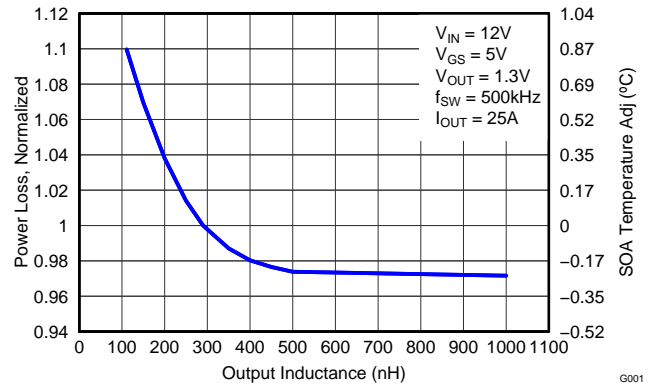

Figure 8. Normalized Power Loss vs Output Inductance
- Normalized Power Loss for output inductor \approx 1.03 (Figure 8)
- SOA adjustment for output inductor \approx 0.3°C (Figure 8)